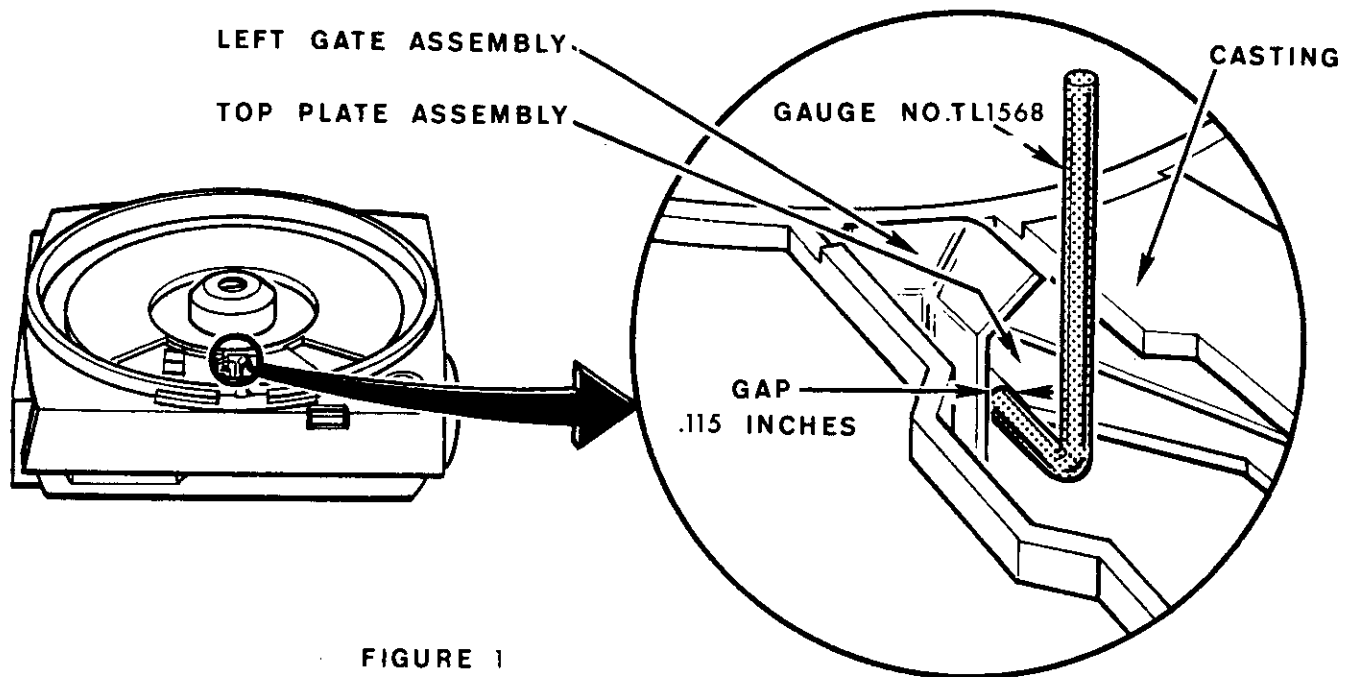

FIGURE 1
Misalignment of the LEFT GATE ASSEMBLY (Figures 1 and 2) can cause slides to jam in the projector. The effect of gate misalignment may be to direct the movement of a slide so that it strikes the sharp bottom edge of a tray divider while it is being raised from the gate for return to the tray. In the case of cardboard-mounted slides, the result is that the slides become more and more dog-eared, and the possibility of jamming the projector increases. If the slides being projected are mounted in metal or plastic, the degree of gate misalignment will determine whether or not the slides will jam if they strike the tray divider.
2. Check the gap between the LEFT GATE ASSEMBLY and the edge of the TOP PLATE ASSEMBLY of the mechanism, with gauge (#TL1568), (Figure 1). The diameter of this tool is .115 inches. The tool should just pass through the gap. Clearance should not be excessive.